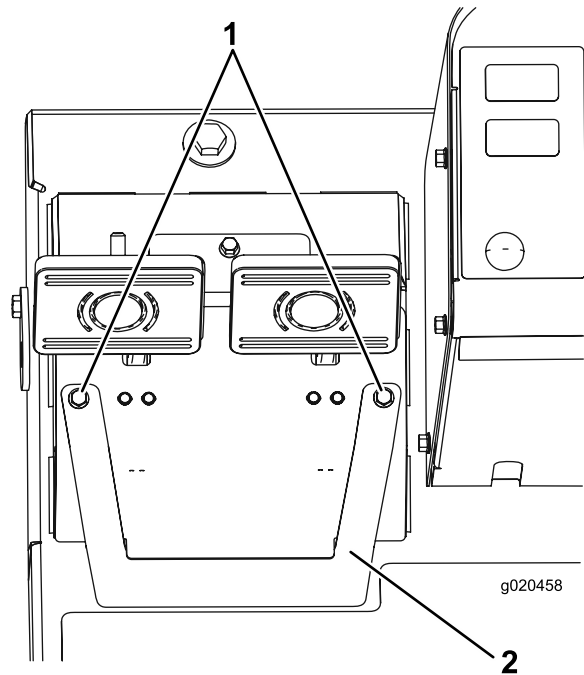

Figure 63
- A. Loosen the 2 mounting screws and remove the brake adjustment cover (Figure 63).